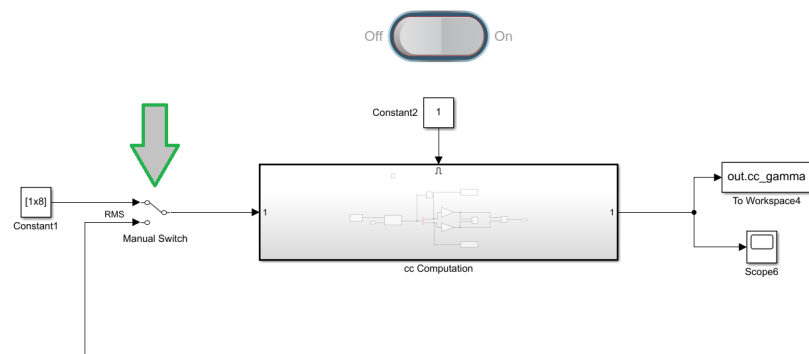

Figure 5: EMG Manual Switch
9. in 'gForce_data_acquisitionn_ccOnline_ROS_v2_1.slx' set the Manual Switch 'up' and the Switch Button 'off' (Figures 5 and 6)
5. in 'gForce_data_acquisitionn_ccOnline_ROS_v2.1.slx' set the Manual Switch 'down' and the Switch Button 'on' (Figures 5 and 6)